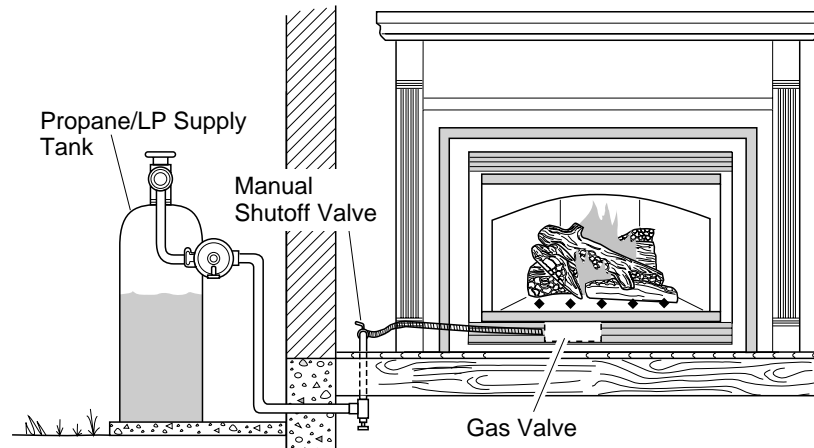
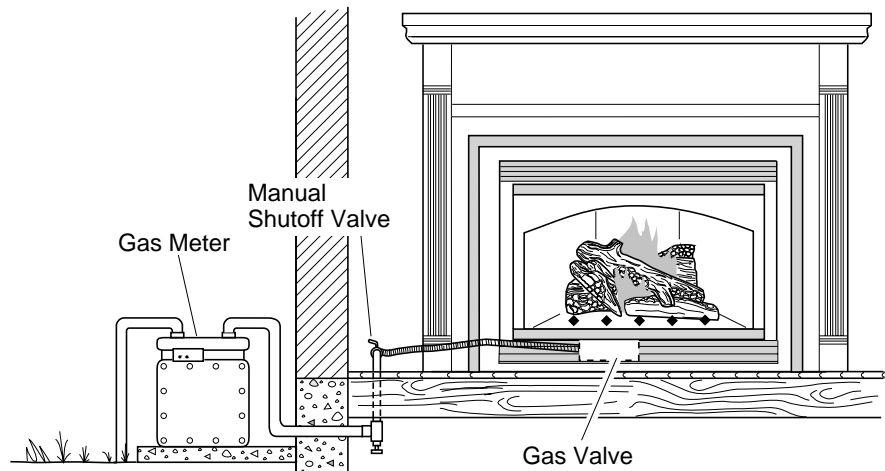

Figure 39 - Checking Gas Joints for Propane/LP Gas Fireplace
Figure 40 - Checking Gas Joints for Natural Gas Fireplace
3. Check all joints from propane/LP supply tank or gas meter to manual shutoff valve (see Figure 39 for propane/LP or Figure 40 for natural). Apply commercial leak test solution to all gas joints. Bubbles forming show a leak. Correct all leaks at once.
4. Check all joints from manual shutoff valve to thermostat gas valve (see Figure 39 for propane/LP or Figure 40 for natural). Apply commercial leak test solution to all gas joints. Bubbles forming show a leak. Correct all leaks at once.